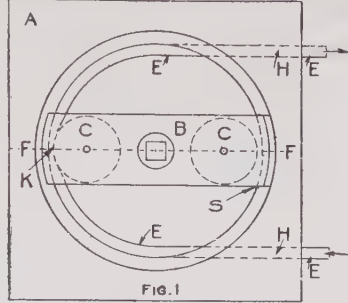
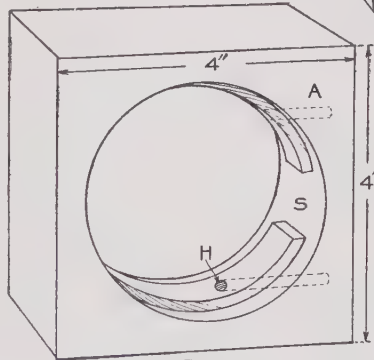
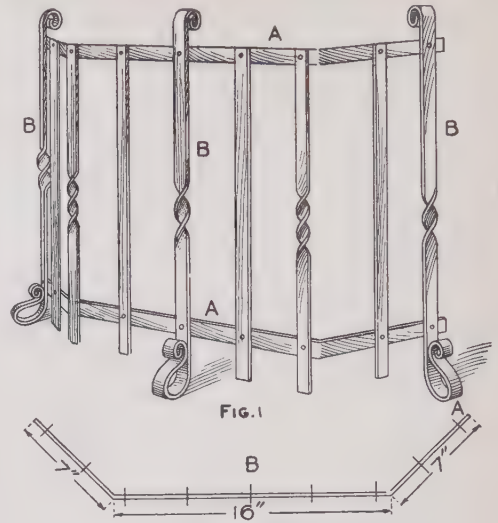

Fig. 1
Fig. 3
FIG. 2
When the cord is passed over pulley C, as shown in Fig. 1, the circuit will be closed when the alarm goes off, but if it is passed over D the circuit will be opened. Pulley D is fastened to a piece of spring steel, E, which in operation is bent, as shown by the dotted lines, thus causing the switch to snap open quickly and prevent forming an arc.—Contributed by Douglas Royer, Roanoke, Va.
A simple rotary pump is constructed on the principle of creating a vacuum in a rubber tube and so causing water to rise to fill the vacuum. Figs. 3, 4 and 5 show all the parts needed, excepting the crank and tubing. The dimensions and description given are for a minimum pump, but a larger one could be built in proportion.
Through the center of a block of wood 4 in. square and $\frac{7}{8}$ in. thick (A, Figs. 1, 2 and 3) saw a circular opening $2\frac{7}{8}$ in. in diameter. On each side of this block cut a larger circle $3\frac{1}{4}$ in. in diameter, having the same center as the first circle (Fig. 3). Cut the last circles only $\frac{1}{4}$ in. deep, leaving the first circle in the form of a ridge or track $\frac{3}{8}$ in. wide, against which the rubber tubing, E, is compressed by wheels. Bore two $\frac{1}{4}$ -in. holes (HH, Fig. 1) from the outside of the block to the edge of the inner circle. Put the rubber tube, E, through one of these holes, pass it around the track and out through the other hole. Notice the break (S) in the track; this is necessary in order to place in position the piece holding the wheels.
and the track (K, Fig. 1) is equal to the thickness of the tubing when pressed flat. If the wheels fit too tightly, they will bind; if too loose, they will let the air through. Bore a hole through the middle of the wheel-holder and insert the crankpin, D, which should be about $\frac{1}{2}$ in. in diameter. The crankpin should fit tightly; if necessary drive a brad through to keep it from slipping.
A screen which will not interfere with the radiation of the heat from the fire, and will keep skirts and children safe can be made at little expense out of some strap iron. The screen which is shown in Fig. 1, stands 20 in. high from the base to the top cross-piece and is made of $\frac{3}{4}$ by $\frac{1}{4}$ -in. and $\frac{1}{2}$ by $\frac{1}{4}$ -in. iron. The top and bottom pieces marked AA, Fig. 1, are $\frac{3}{4}$ by $\frac{1}{4}$ in. and are 30 in. long, bent at an angle to fit the fireplace 7 in. from each end, as shown in Fig. 2. The three legs marked BBB, Fig. 1, are of the same size iron and each leg will take 34 in. of material. In shaping the feet of these three pieces give them a slight tendency to lean toward the fire or inside of screen, says
a correspondent in the Blacksmith and Wheelwright. In the two cross bars 1 in. from each end, A in Fig. 2, mark for hole and 3 in. from that mark the
Mark the legs $2\frac{3}{4}$ in. from the bottom and 2 in. from the top and after making rivet-holes rivet them to the cross bars, AA, Fig. 1.
Cut six pieces, $17\frac{1}{2}$ in. long and punch holes to fit and rivet onto the remaining holes in cross bars, AA, Fig. 1. Clean it up and give it a coat of black Japan or dead black.